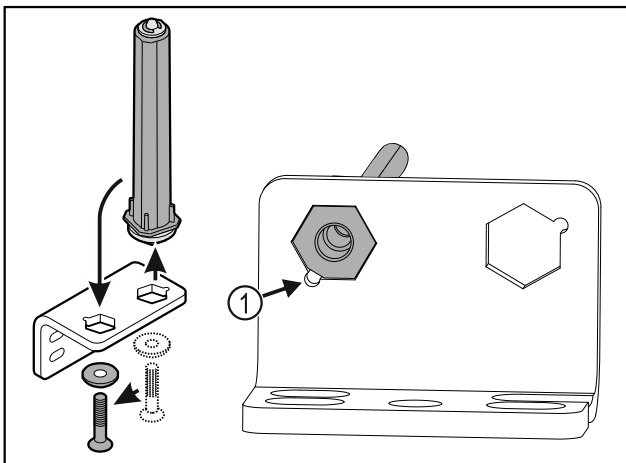

Fig. 37
- Make sure the pin chamfer Fig. 37 (1) faces the round hole when you put it in.